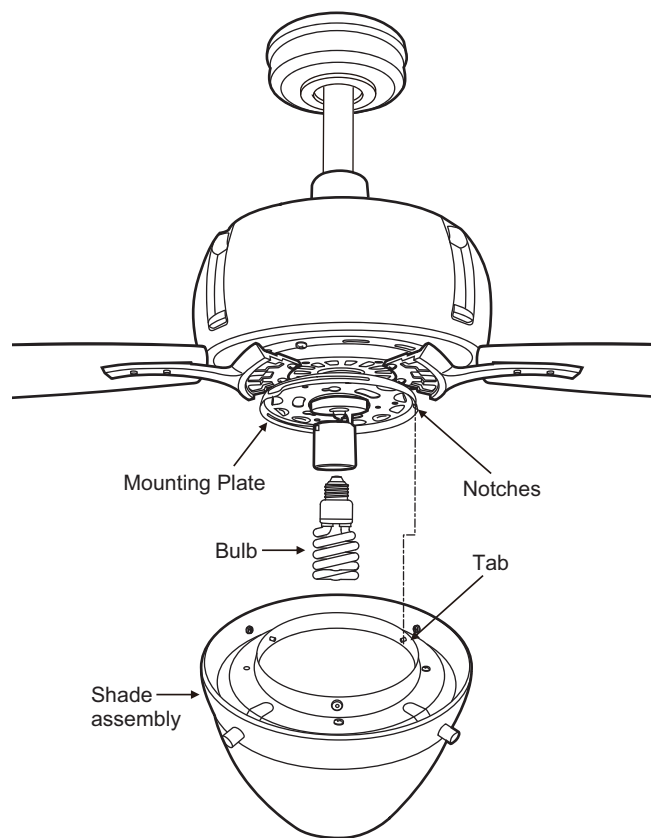

Figure 14
2. Raise the shade assembly up against the mounting plate and secure it to the fan by twisting shade assembly clockwise until the tabs on the shade assembly properly sits in the notches on the mounting plate. **DO NOT OVER TIGHTEN.** (Fig. 14)